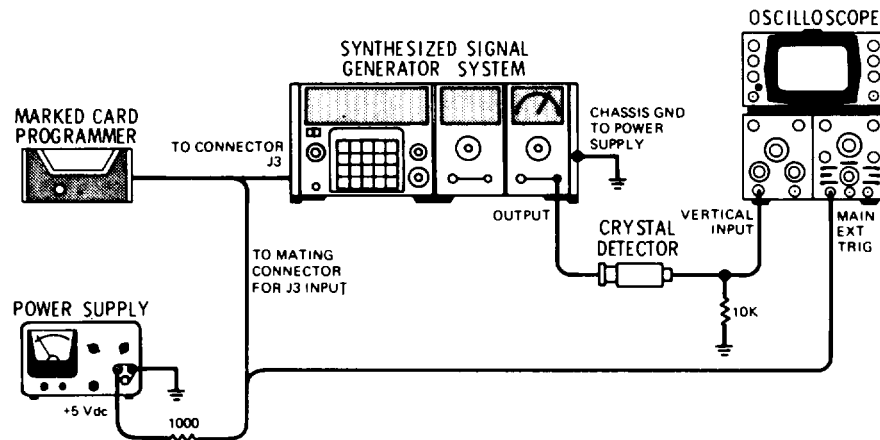

Figure 4-3. Output Level Switching Time Test Setup
1. Connect equipment as illustrated in Figure 4-3. Note that + 5 volt output from DC Power Supply is connected through a 1000 ohm resistor to pin 17 of mating connector to J3 and to Oscilloscope external trigger input.